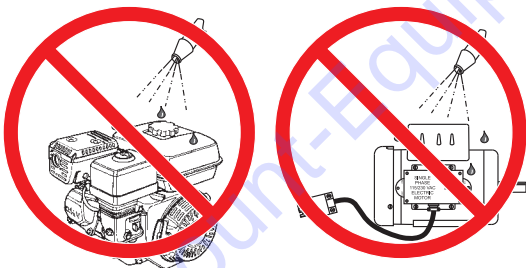

Figure 36. No Spraying of Water
8. **NEVER!** pour or spray water over the engine or electric motor (Figure 36).